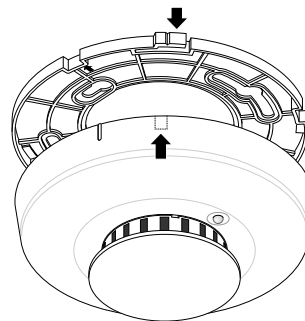

Figure 2. Detector/base lock
1. If you are using the detector/base lock, remove the detector knockout and break off the tab on the mounting base. See Figure 2.